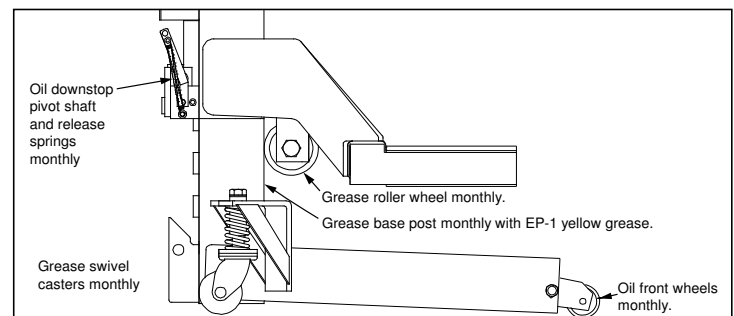

Fig. 11: Lubrication points
- Lubricate all rotating and sliding portions of the jack monthly (Fig. 11).